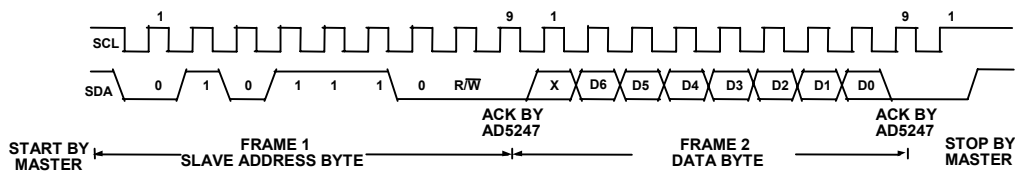
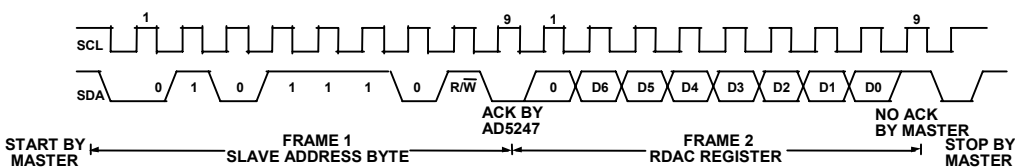

Figure 4. Writing to the RDAC Register
Figure 5. Reading Data from a Previously Selected RDAC Register in Write Mode
1. The master initiates data transfer by establishing a START condition, which is when a high-to-low transition on the SDA line occurs while SCL is high (see Figure 4). The following byte is the slave address byte, which consists of the 7-bit slave address followed by an $\overline{R/W}$ bit (this bit determines whether data will be read from or written to the slave device).
3. In the read mode, after acknowledgement of the slave address byte, data is received over the serial bus in sequences of nine clock pulses (a slight difference with the write mode, where there are eight data bits followed by an acknowledge bit). Similarly, the transitions on the SDA line must occur during the low period of SCL and remain stable during the high period of SCL (see Figure 5).
4. When all data bits have been read or written, a STOP condition is established by the master. A STOP condition is defined as a low-to-high transition on the SDA line while SCL is high. In write mode, the master will pull the SDA line high during the tenth clock pulse to establish a STOP condition (see Figure 4). In read mode, the master will issue a No Acknowledge for the ninth clock pulse (i.e., the SDA line remains high). The master will then bring the SDA line low before the tenth clock pulse which goes high to establish a STOP condition (see Figure 5).